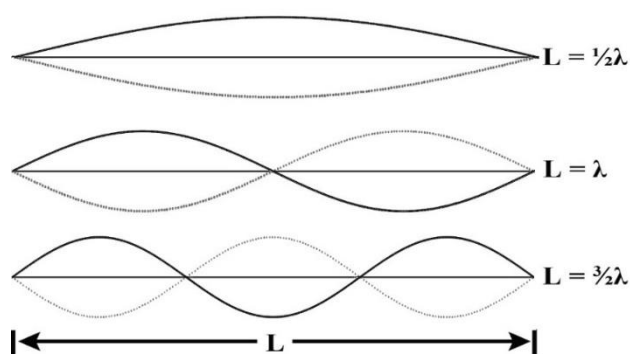

Figure 4: Modes of Vibration
A stretched string has many natural modes of vibration (three examples are shown in Figure 4 above).
**In the second part, we hold the frequency constant** and vary the tension (Figure 4) to get standing waves with different numbers of segments, so different values of  $\lambda$ . Plotting  $F$  versus  $\lambda^2$  should give a straight line with slope  $\mu f^2$ .